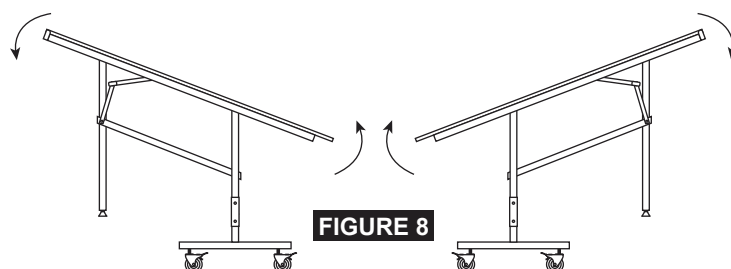

FIGURE 8
2. Fold each half table as shown in **FIGURE 8**.